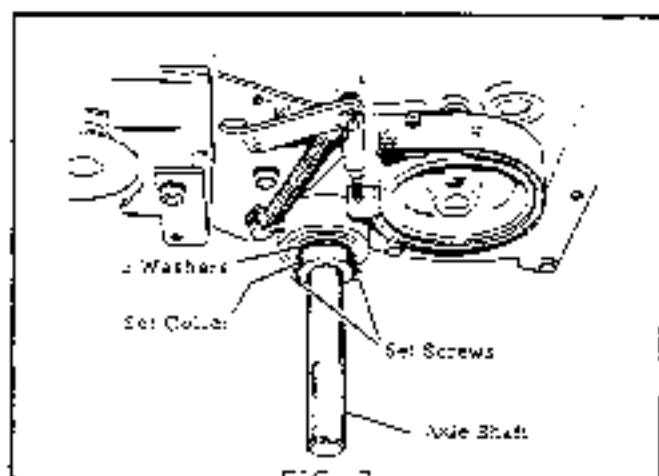
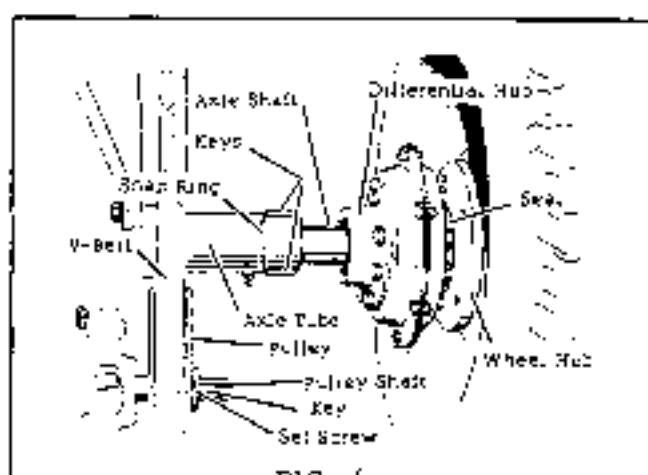

FIG. 7
FIG. 6
7. Place the key in the key-way of pulley shaft and mount the pulley with the hub facing away from the transmission. Do not tighten the setscrew until after the V-belt is in place and the pulley is aligned with the pulley on the bevel gear box. See Fig. 6.
axle shaft through the transmission. The differential hub is to seat against the snap ring on the axle tube. See Fig. 6.
9. Make sure that the axle and differential are properly seated so that the seal between the differential and the wheel hub is compressed. See Fig. 6. The axle is then held in this position by placing the set collar over the L.H. end of the axle shaft and locking it securely against the axle tube by means of the 2 setscrews. It is very important that this set collar be securely locked at all times to eliminate any end play of the axle shaft. See Fig. 7.